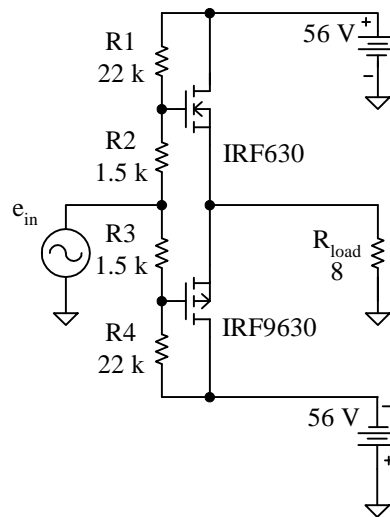

Figure 5-17 Class B push-pull amplifier schematic
The combined push-pull (n -channel and p -channel) amplifier is shown in Figure 5-17. The performance and all of the calculations are just as you saw in Example 5-5. Each transistor is biased to the *edge* of conduction. But neither is on, so no dc current flows through the load, and it does not have to dissipate power just for the transistors to be properly biased.
The n -channel transistor has been changed from the IRF530 to the IRF630. In the push-pull amplifier of Figure 5-17, the p -channel may drive the load (and therefore the source of the n -channel transistor) to almost -56 V. With $+56$ V on its drain, the n -channel transistor must have a rated maximum V_{DS} of over 112 V. The IRF630 (n -channel) /IRF9630 (p -channel) transistors each have a maximum drain voltage of 200 V.
The class A amplifier is so inefficient that it is impractical for use in delivering more than a few watts to a load. The class B amplifier solves this problem, allowing you to build a linear amplifier capable of providing hundreds of watts to the load. Even so, the simple class B amplifier of Figure 5-17 has several problems.
1. Calculate new values for R2 and R3 in Figure 5-17 to set the gate voltages at $\pm 2\text{ V}$, at the bottom of the rated threshold voltage.